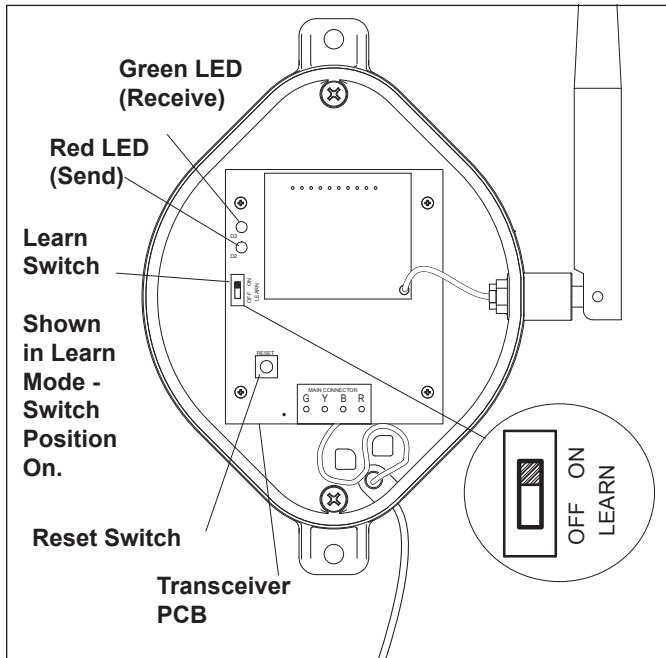

Figure 4. Transceiver J-box PCB Learn Switch
4. When "Set" is displayed on the handheld remote's screen, slide the Learn Switch to LEARN (ON) on the J-box Transceiver PCB. See Figure 4.
5. The display will show the RF channel on J-box has been set. At the J-box, set the Learn Switch to OFF and press the Reset Switch. The Red and Green LEDs on the J-box will blink simultaneously and within 10 to 15 seconds, the main menu will appear on the handheld remote's display (see Figure 4).